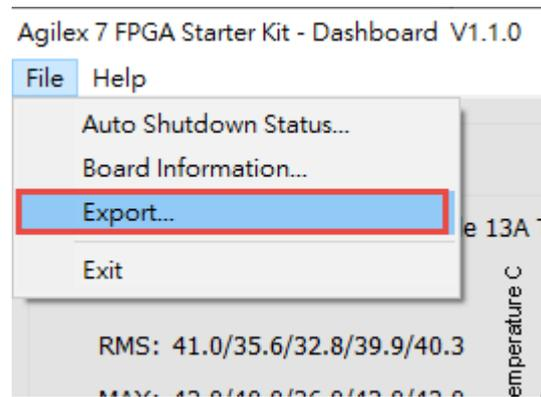
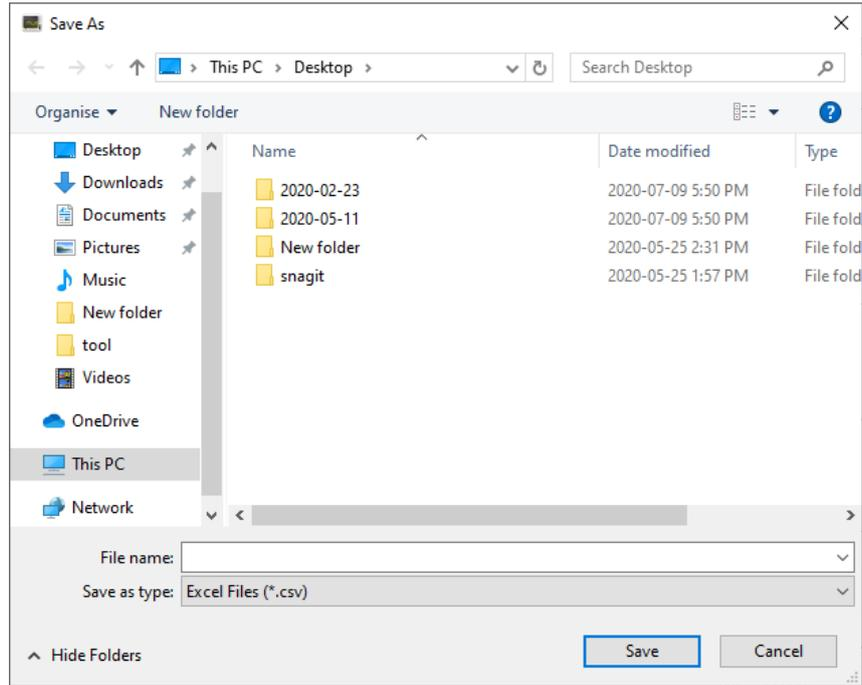

Figure 3-18 Export the log file
Figure 3-19 Export the log file in .csv format
- **Log File:** Click the Export in the File page to save the board temperature, fan speed and voltage data in .csv format document, as shown in **Figure 3-18** and Figure 3-19.